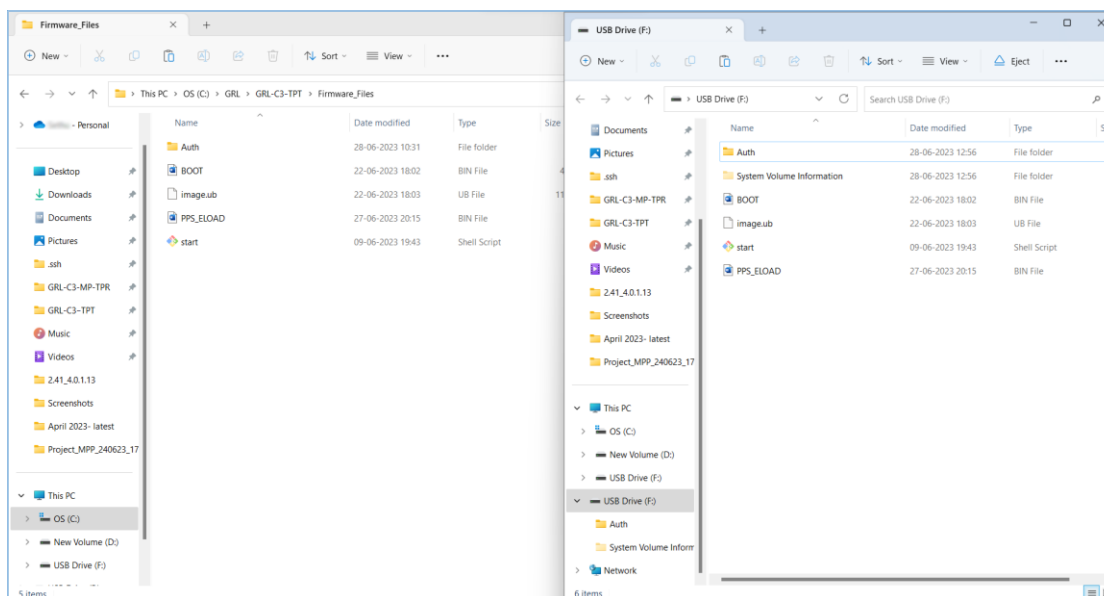

FIGURE 7.11: COPY GRL-C3-TPT FIRMWARE FILES INTO REMOVABLE USB DRIVE
- b) Copy the files from "**C:\GRL\GRL-C3-TPT\Firmware_Files**" into the newly detected removable USB drive. Refer to Figure 7.11 below.